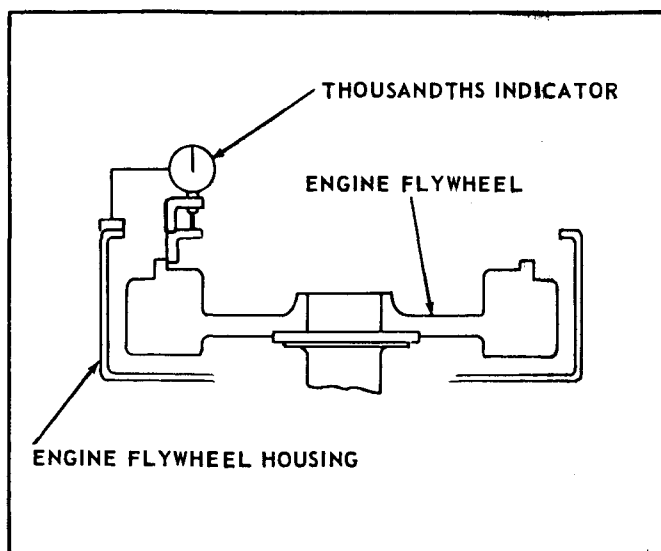

Figure 34. Checking the Driving Ring Pilot Bore of the Engine Flywheel.
**E. Checking Driving Ring Pilot Bore of Engine Flywheel.** With the indicator bolted as in D above, adjust the indicator stem so that it will ride on the driving ring pilot bore of the engine flywheel (fig. 34). The driving ring pilot bore eccentricity of the engine flywheel should not exceed 0.005-inch maximum total indicator reading.